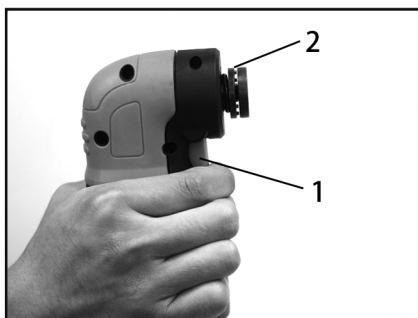
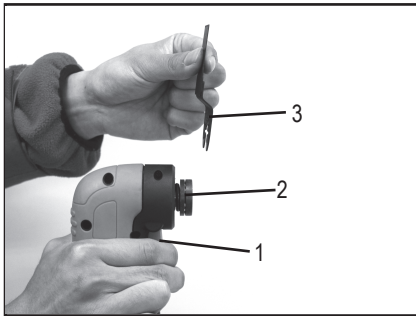

Fig. 1
Fig. 2
1. Press the accessory holder (1). Fig. 1
2. Place the blade (3) on the accessory holder (Fig. 2)
1. Install the plunge cutting wood saw blade for wood in the tool (Fig. 2).
1. Install the plunge cutting saw blade for wood in the tool (Fig. 2)
1. Install the half circle saw blade for wood & drywall in the tool (Fig.2)
1. Install the sanding pad on the multi-tool as outlined in Fig. 2
1. Install the scraper blade on the multi-tool as outlined in Fig. 2, Fig. 1 & 2.